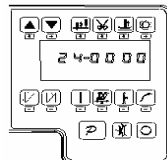

Fig.4-2
Step 1: Press  and  keys, enter monitor mode to the NO. 24th monitoring parameters. As shown in Figure 4-2
Step 2: Turn the hand wheel so that the wiper to the position of the up needle position, LCD will show a mechanical angle of deviation. As shown in Figure 4-2 Legend.
Step 3: Press the  and  keys, LCD display 240000 (previous step mechanical deflection angle zero) to prove that the needle position set. As shown in Figure 4-2 Legend: